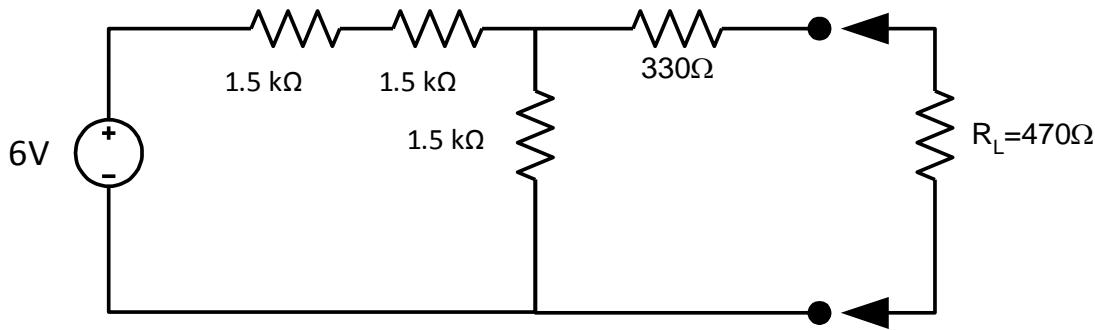

Figure 1: First Circuit for Circuits V Lab
1. Construct the circuit shown in Figure 1 on a breadboard. Provide the wiring needed to use the positive variable power supply.